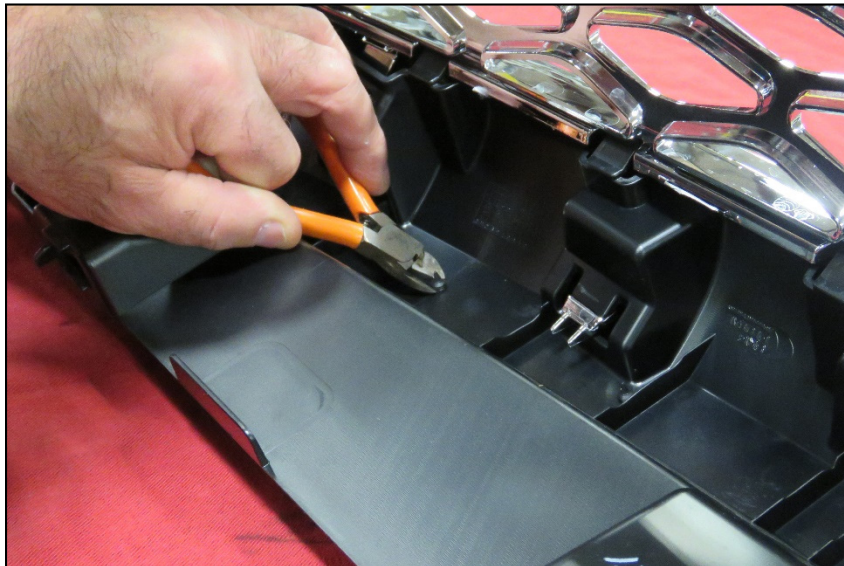

Figure 2
6. Using a suitable tool, cut the seal retaining clips, and remove the seal. See Figure 2.